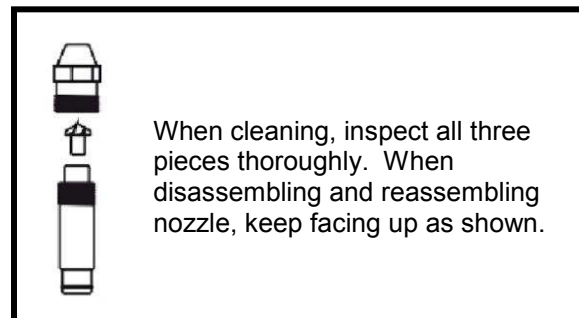

Figure 10 – Nozzle Assembly Detail
**WARNING:** This adjustment is done at the factory and should not be moved unless Fig 10 dimensions have been altered.